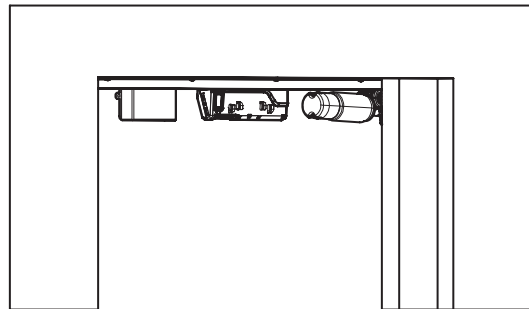

Fig 2: Overhead Mount/Pocket Door Sliding System
- For pocketed doors or overhead mount sliding system, drive unit may be installed on either side of the door (Fig 2).